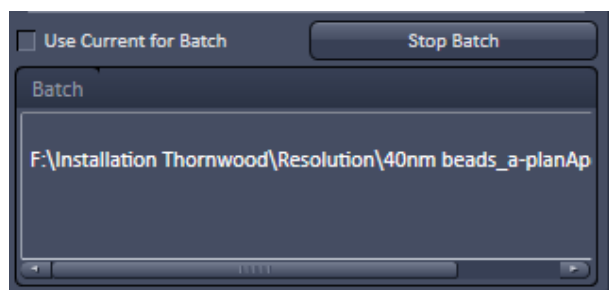

Fig. 382 SIM – Batch processing
-  Once loaded the software immediately starts Batch processing and shows the current file (with directory) in the **Batch display** window, which is currently processed (Fig. 382). The **Batch display** window also shows the current state of batch processing in %. Once the button is pressed and the files loaded the system immediately begins to process the loaded files regardless if the **Apply** button is pressed or not.